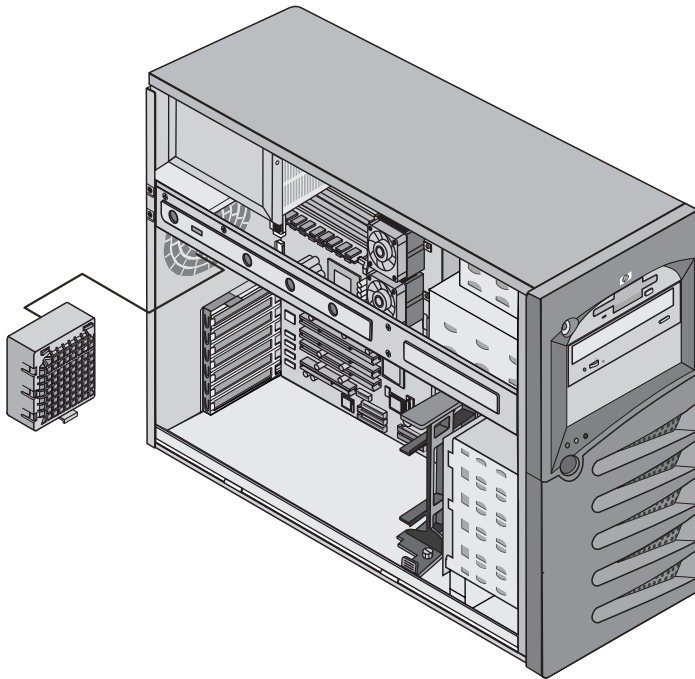

Figure 5-1: Removing chassis fan
6. Unplug the connector and lift out the fan. Refer to Figure 5-1.